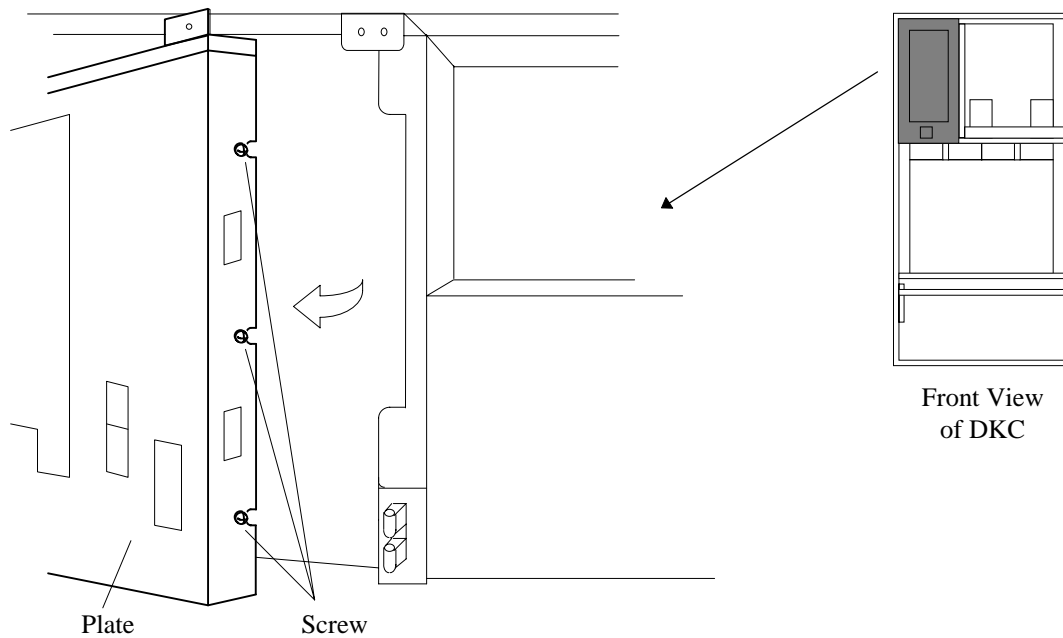

Fig. T1-4 Removal of Plate
- a. Attach the plate to the Movable rack and fasten the three screws. Refer to Fig. T1-4.